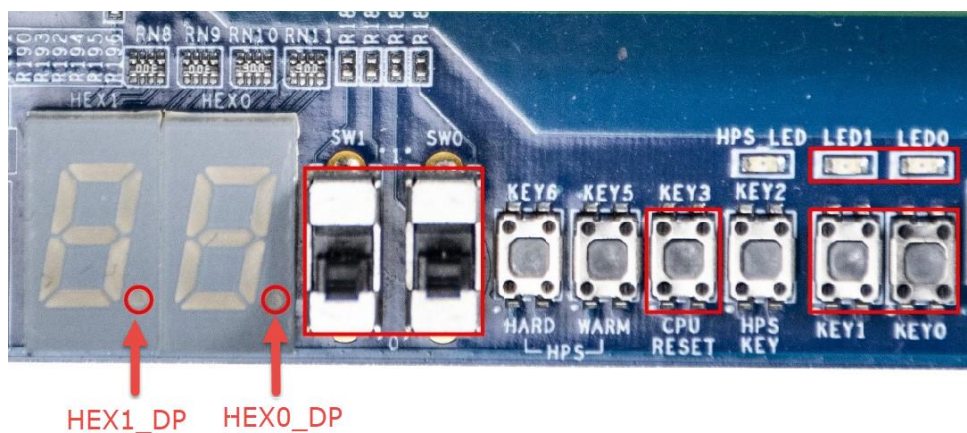

Figure 4-14 KEY/SW/LED on HAN
8. Observe LED0 and LED1 as shown in **Figure 4-14**. If two LEDs light up, it means the two channels 12G SDI loopback test are pass.
9. Set the SW0 switch to Down as shown in **Figure 4-14** and observe HEX0_DP (dot point). If the dot point lights up, it means the 3G SDI Loopback test is pass. Then, set the SW0 switch to the Up position, and observe the HEX1_DP to check whether the 3G SDI loopback test is pass in another direction.